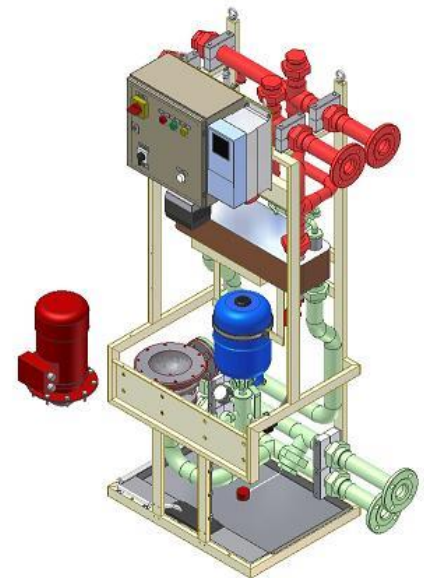

Figure 6.2-1
11. Remove the bolts and nuts from the pump motor flange. Therefore leaving the pump housing in place (figure 6.2-1).